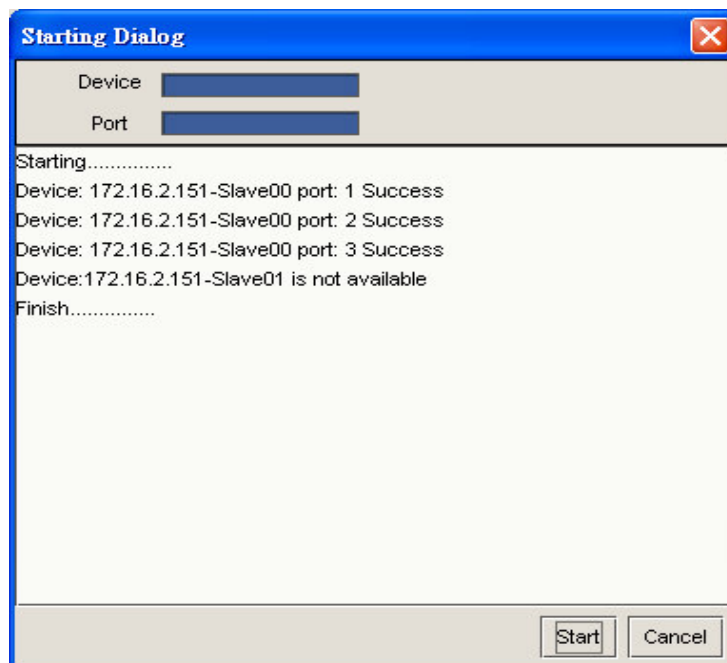

Figure 9-8. Deploy progress dialog
Step3: Push the start button to start the deploy the alarm profile, the result will display on the center of the dialog as below Figure 9-8: